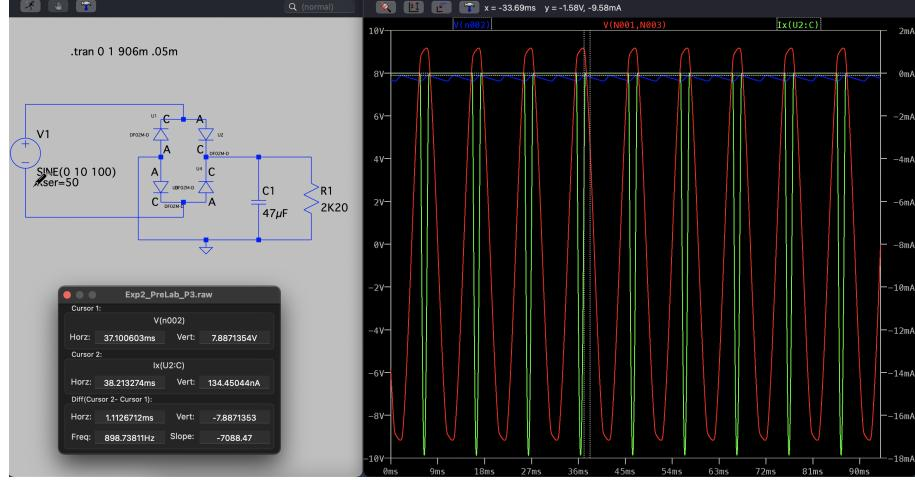

Figure 7:  $U_L$ ,  $V_{in}$ , and  $I_D$
3. Figure 7 shows the circuit with  $C_1$  built in LTSpice and the plot of  $U_L$ ,  $V_{in}$ , and  $I_D$ .
4. From Figure 7, peak voltage at  $R_L$  and the peak current  $I_D$  can be obtained.